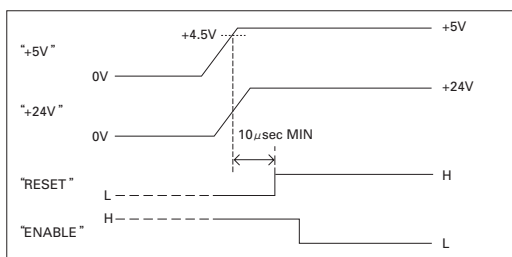

Fig1
- Set "RESET" to High 10μsecs after "+5V" rises above "+4.5V", as shown in Fig 1. When turning on the power with "ENABLE" set to Low, set "RESET" to High after "+24V" rises completely.